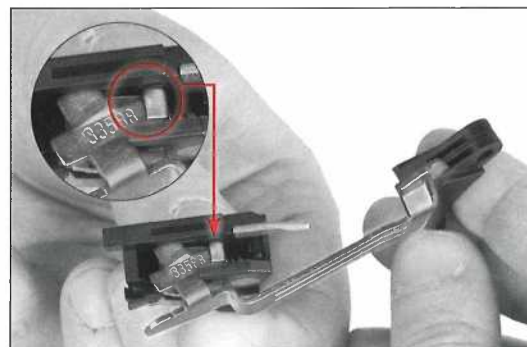

Fig. 270
- Reinstall the trigger bar by hooking the front part of the cruciform into the upper lip of the trigger spring bearing and sliding the left arm of the cruciform into the trigger mechanism housing on top of the safety ramp. (Fig. 270)